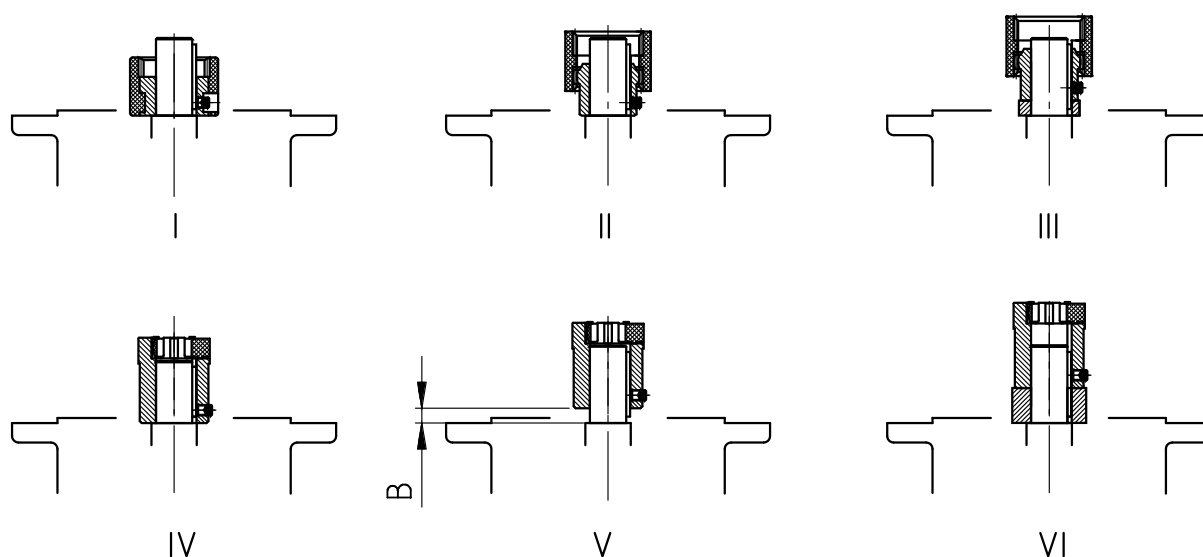

Figure 15: Fitting the coupling onto the motor shaft - various types of coupling
3. Position the half-coupling onto the motor shaft so that the motor parallel key engages into the groove of the half-coupling. Tighten the half-coupling in accordance with the motor manufacturer's instructions. With standard helical gear units, observe dimension B between the half-coupling and the collar (see "Figure 15"). Adjust the coupling in accordance with the specifications indicated on the adhesive plate for certain **NEMA adapters**.
8. Attach the motor to the adapter. Also attach the enclosed ring gear or the enclosed gear sleeve (see Figure 15: Fitting the coupling onto the motor shaft - various types of coupling). For the AN360TC and AN400TC adapters, attach the adapter flange to the motor first, and screw the motor onto the adapter.